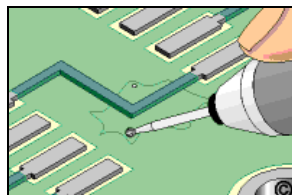

Figure 1: Drill into the delamination blister using a Ball Mill and a Micro-Drill.
2. Mount a small Ball Mill into the hand piece of the Micro-Drill or into the Mill Handle. Drill in an area clear of circuitry or components. Drill at least two holes opposite each other around the perimeter of the delamination. (See Figure 1). Remove all loose material.